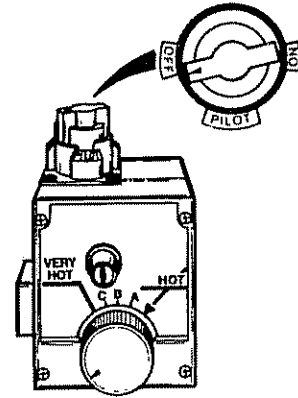
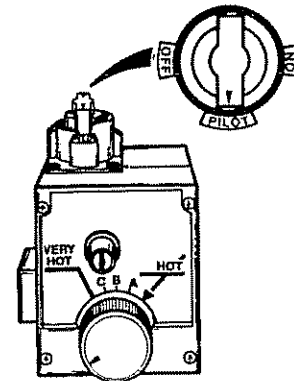

Figure 13
Figure 14
4. Turn gas control knob clockwise (↻) to "OFF" position. Knob cannot be turned from "PILOT" to "OFF" unless knob is depressed slightly. **DO NOT FORCE.** (Figure 13, page 21)
5. Wait five (5) minutes to clear out any gas. If you then smell gas, STOP! Follow "B" in the safety information above on this label. If you don't smell gas, go to the next step.
7. If you don't smell gas, turn knob on gas control counter clockwise (↺) to "PILOT" position. (Figure 14, page 21)
8. Push in control knob all the way and hold down. Immediately light the pilot with a match held by a match holder wire. Continue to hold control knob in for about one (1) minute after the pilot is lit. Release knob and it will pop back up. Pilot should remain lit. If it goes out, repeat steps 3 through 8.
- If the pilot will not stay lit after several tries, depress and turn the gas control knob clockwise (↻) to "OFF" and call your service technician or gas supplier. (Figure 13, page 21)
2. Turn gas control knob clockwise (↻) to "OFF" position. Knob cannot be turned from "PILOT" to "OFF" unless knob is depressed slightly. **DO NOT FORCE.** (Figure 13, page 21)